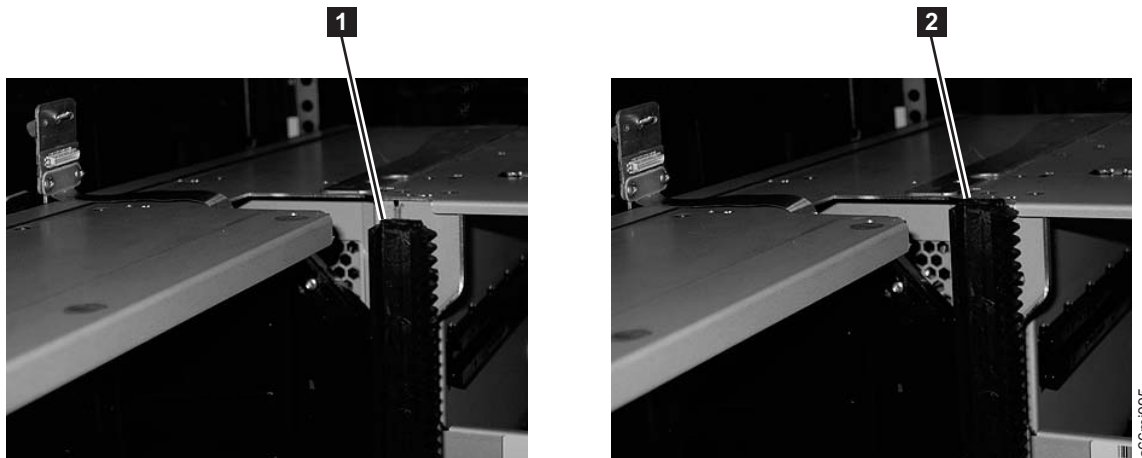

Figure 3-19. Gear racks positions (rear gear racks shown)
4. Ensure that the front and rear gear racks of both the control module and the expansion module are locked in the upper position (see **2** in Figure 3-19 on page 3-21).
1. For all configurations, ensure that the front and rear gear racks are locked in the upper position. See **2** in Figure 3-19.
2. **IMPORTANT:** Ensure that the front and rear gear racks are locked in the upper position (see **2** in Figure 3-19 on page 3-21).
13. **IMPORTANT:** Lower the gear racks into the down (operating) position. See **1** in Figure 3-19 on page 3-21.
1. **IMPORTANT:** Ensure that the front and rear gear racks are in the down (operating) position (see **1** in Figure 3-19 on page 3-21).